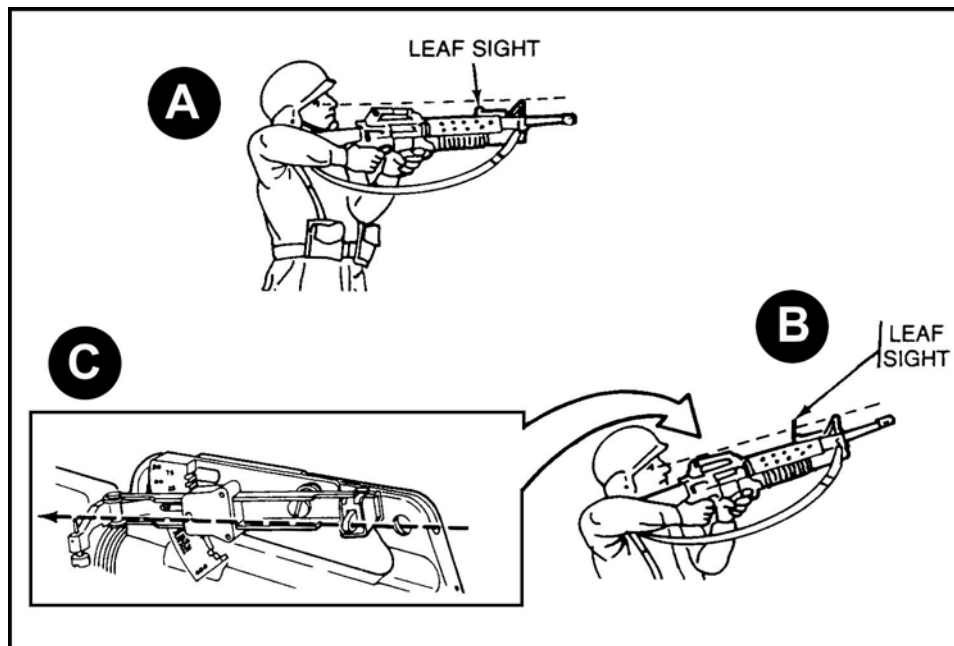

Figure 2. Firing techniques.
6. Select the appropriate firing technique based on target range (Figure 2).
- a. For short-range targets at 50 meters or less, place the leaf sight down and use the rifle sights (A, Figure 2).
- b. For targets from 50 to 250 meters, raise the leaf sight and use with the rifle front sight (B, Figure 2).
- c. For targets from 250 to 400 meters, use the front and rear sight of the quadrant sight only (C, Figure 2).